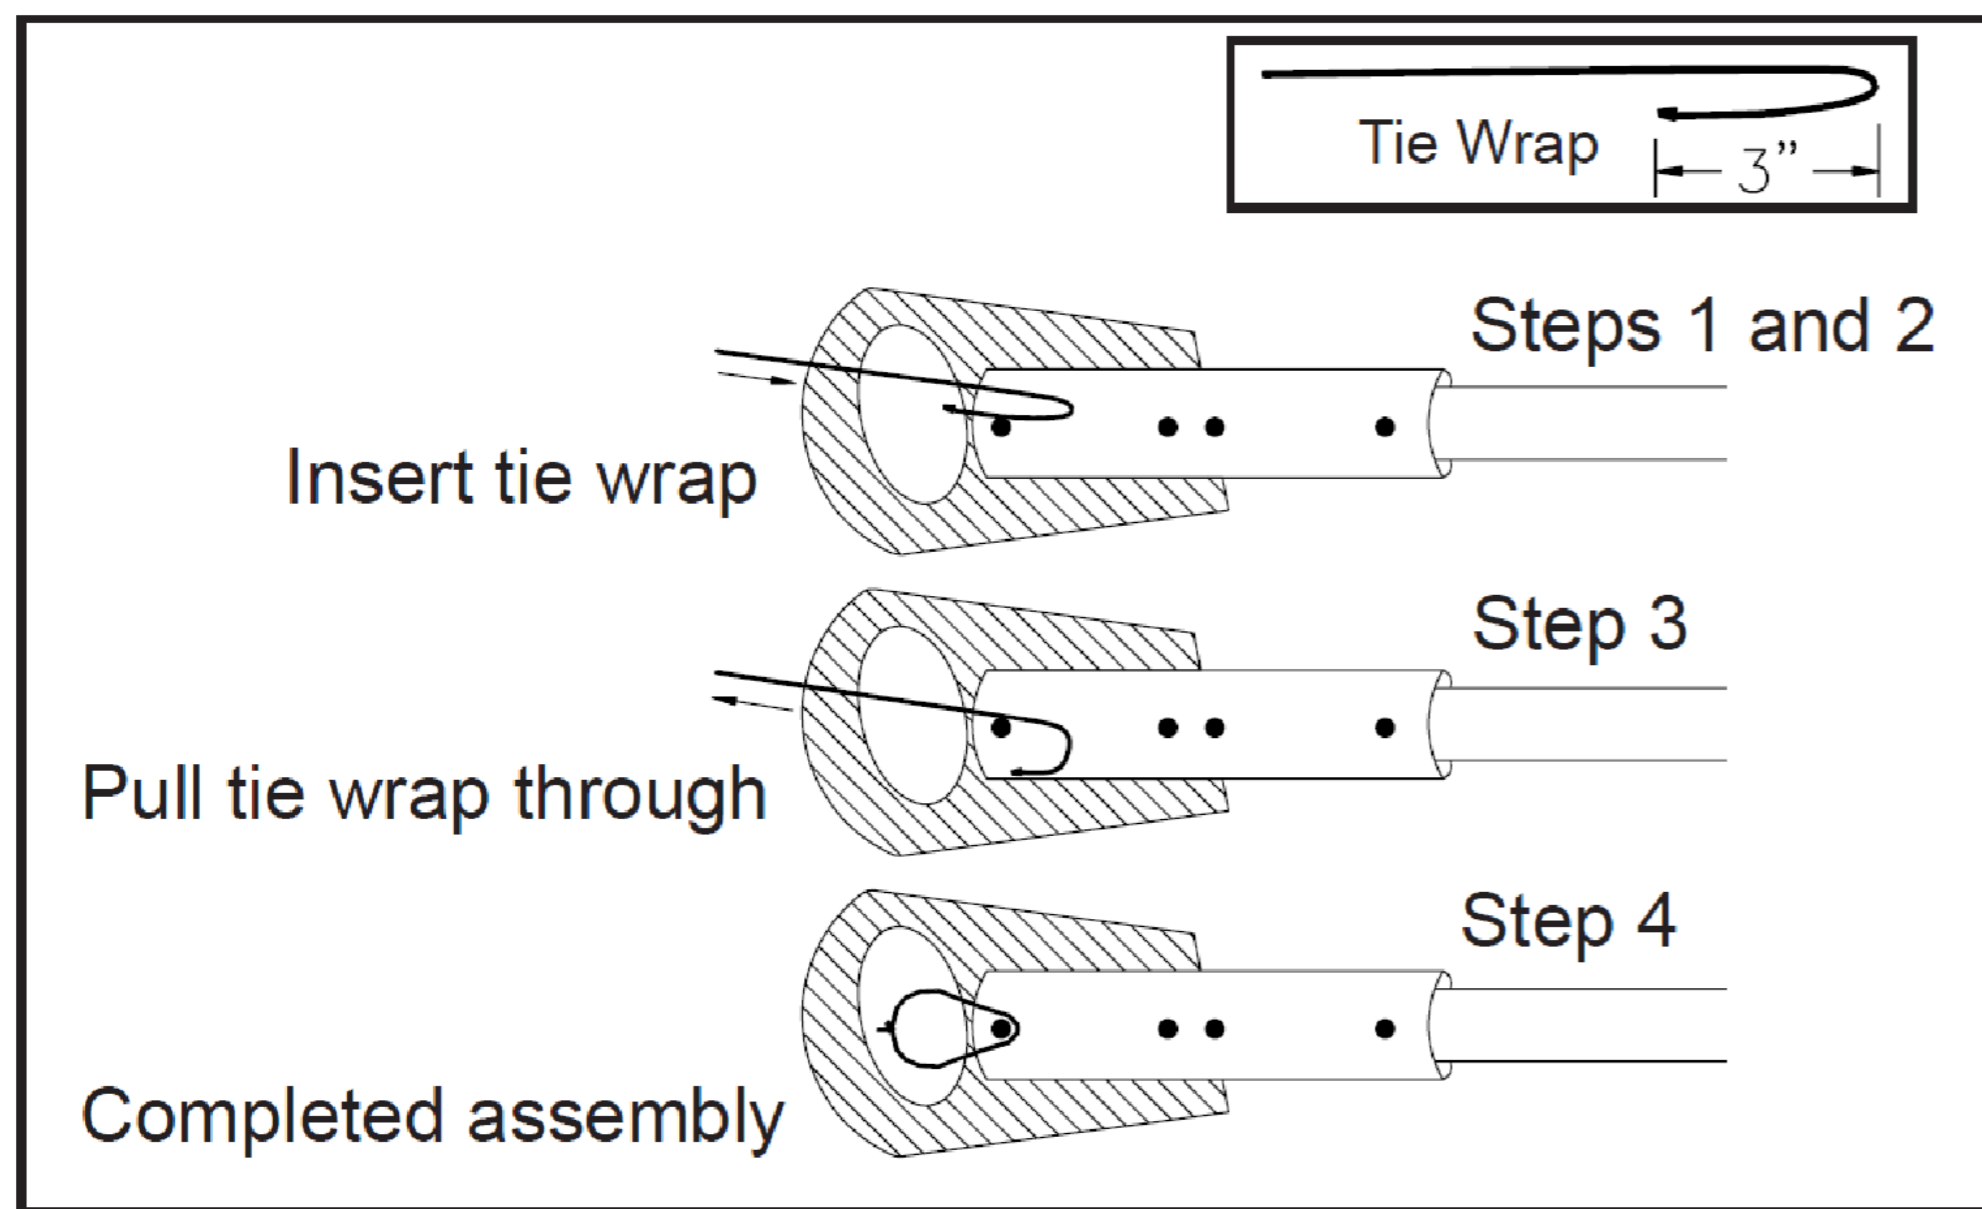
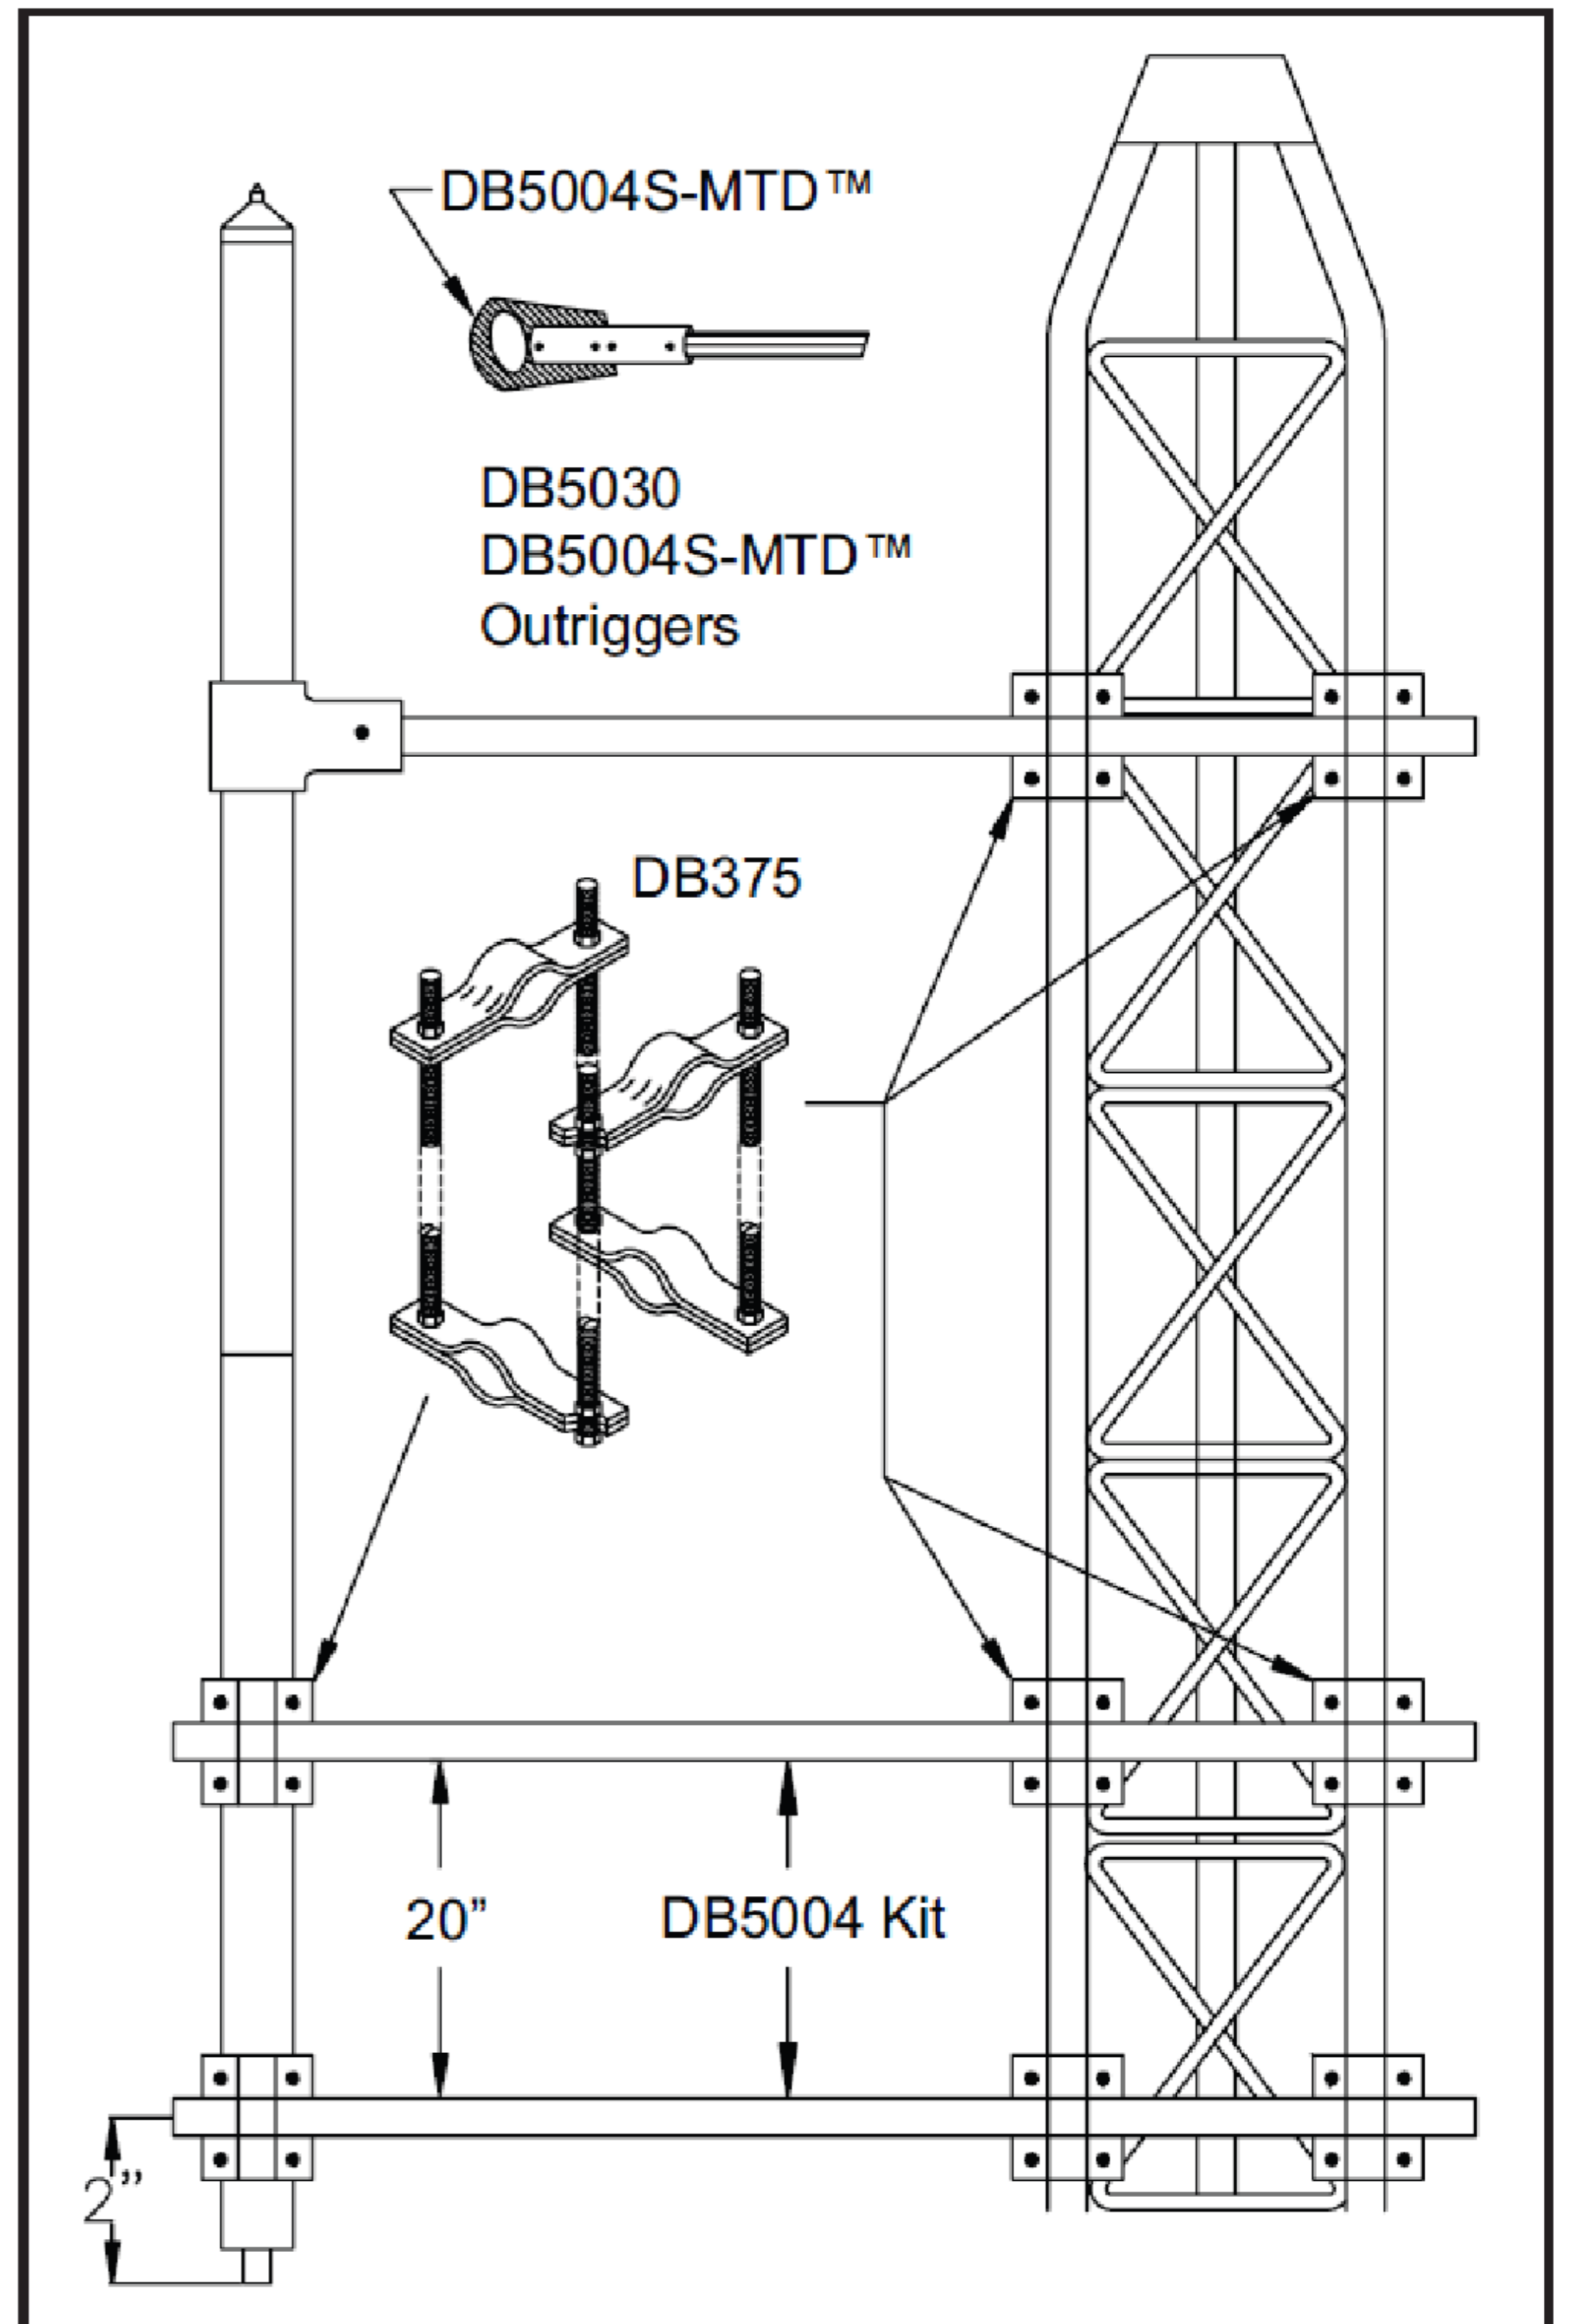

Figure 3. Example of Securing Antenna with Tie Wraps when Installing 2-inch Radome Antenna.
Figure 4. Example of Antenna Showing DB5030 Series Fiberglass Outrigger Assembly and DB5004 Adjustable Side Mount Kit.
- DB5004 (Figure 4) is an adjustable side mount kit that mounts across the face of the tower. This kit includes two 10-foot sections of pipe and six clamp assemblies.
6. Use optional 14-inch tie wrap to secure antennas with 2-inch O.D. radomes, for additional support (Figure 3). See Figure 4 for example of completed assembly.
- See Figure 4 for example of completed assembly.